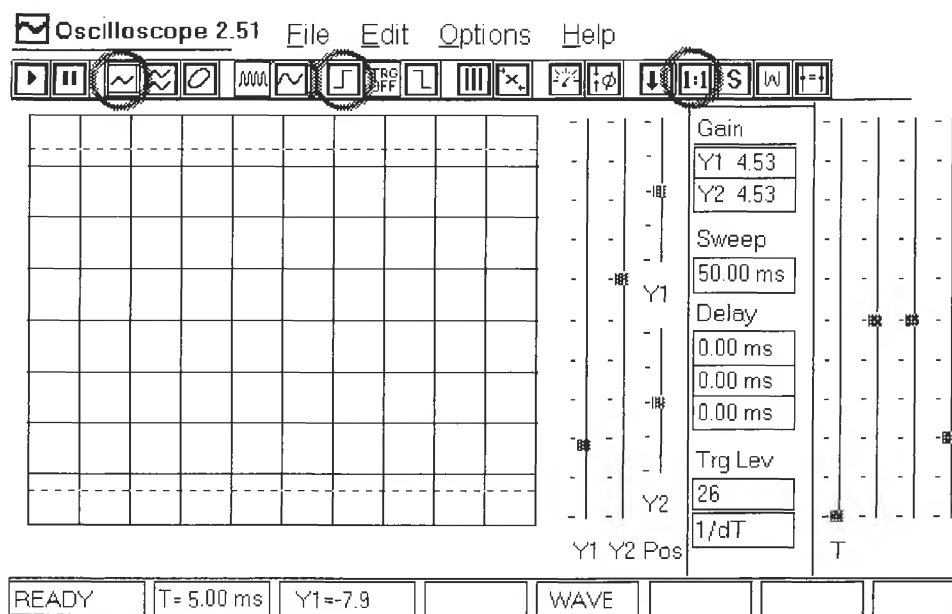

Figure L35-5
7. An oscilloscope (Winscope) is the best tool to help understand this. With the LED removed, attach the scope probe's red clip to the output at pins 3 and 4. The black clip goes to ground. The plug goes into the "Line In" connection of the sound card. The settings are shown in Figure L35-5.